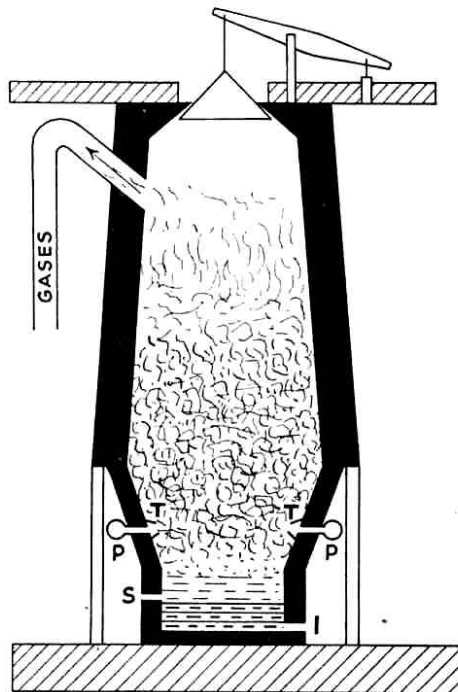

Fig. 1. Diagram of Blast Furnace
The accompanying diagram (Fig. 1) gives a good idea of the construction of a typical blast furnace. The circular shaft, shaped as shown, is lined with firebrick which will stand an enormous amount of heat. The top of the shaft is closed by a conical stopper called the "bell." This stopper may be lowered to allow a charge of iron ore, limestone or coke fuel to be shot into the furnace. The blast pipe (P) which runs round the hearth is also shown, together with two of the nozzles called "tuyères" (pronounced "tuysers") by which the blast is conveyed to the interior of the furnace. These tuyères have to withstand a terrific heat, and to prevent them from melting they are surrounded by pipes through which cold water constantly circulates, or water-jacketed as it is called. The diagram also shows the two openings (S) and (I) through which the slag and the molten iron respectively are drawn off. Finally, there is an opening near the top of the shaft to lead off the hot gases produced.